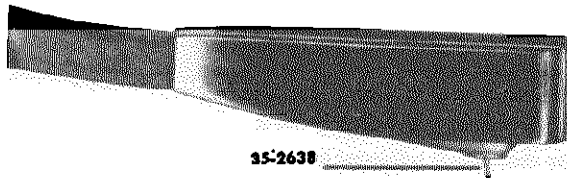

Figure 13. NEEDLE POSITION IN D-10A PICKUP
b. The needle used with the D-10A changer should be pulled straight out with the fingers. There are no setscrews or locking devices. When replacing the needle, make sure that the needle is placed so that its bend is in the direction of record rotation. See figure 13. Push the needle in place, using finger pressure only.